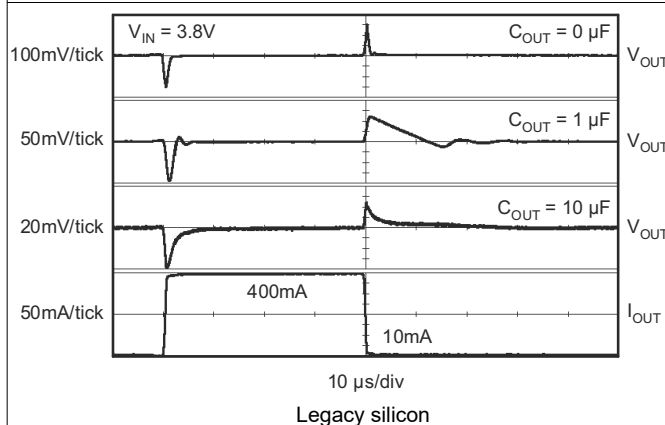

图 5-35. TPS73633 Load Transient Response
The enable pin (EN) is active high and is compatible with standard TTL-CMOS levels. V_{EN} below 0.5 V (max) turns the regulator off and drops the GND pin current to approximately 10 nA. When EN is used to shutdown the regulator, all charge is removed from the pass transistor gate, and the output ramps back up to a regulated V_{OUT} (see 图 5-35).